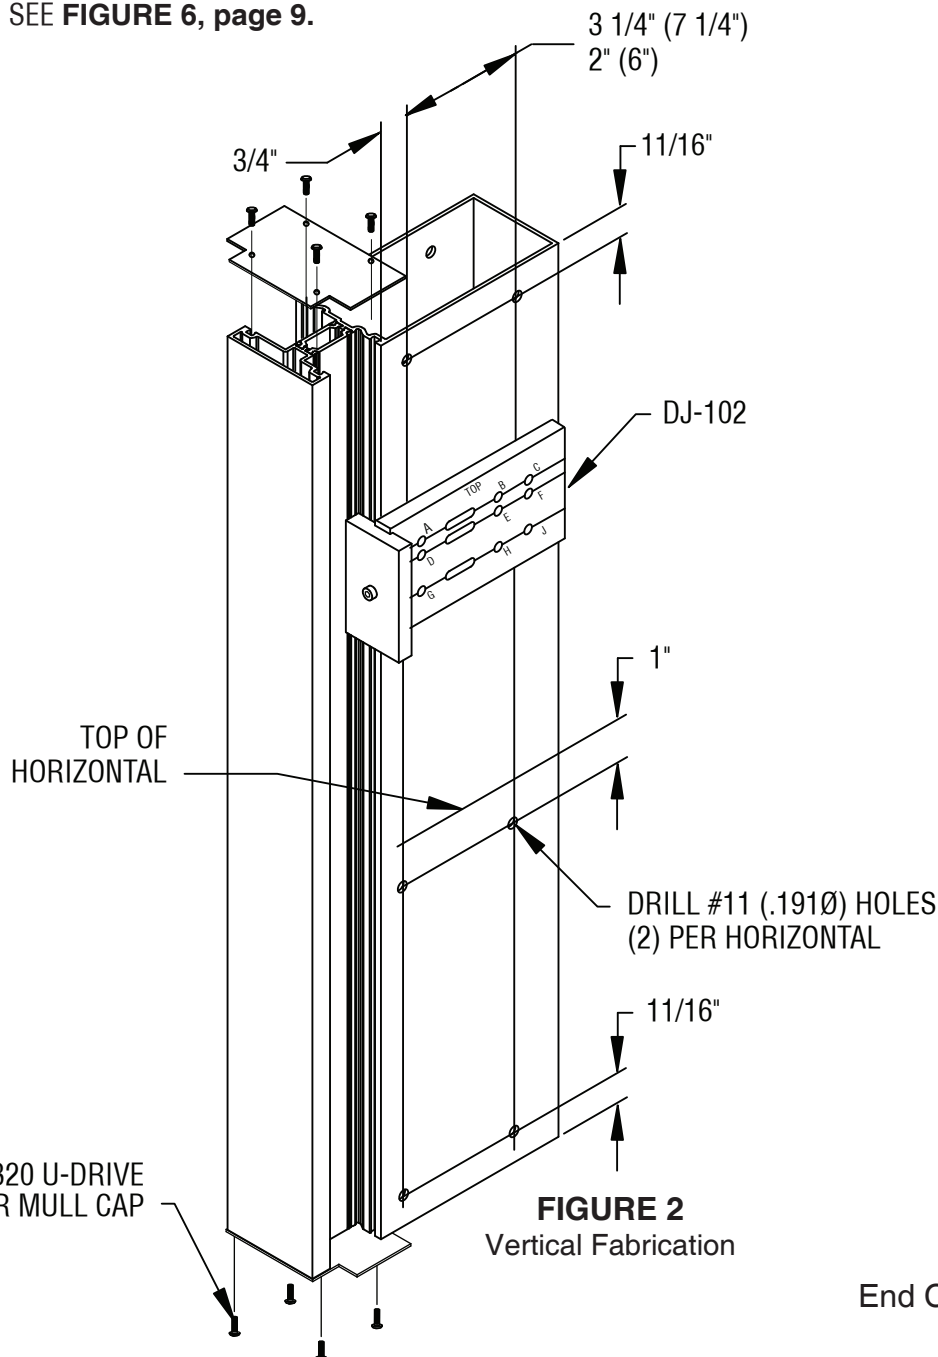
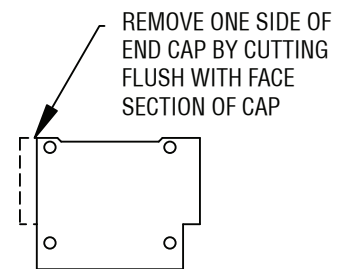

FIGURE 2
FIGURE 3
- 1.3 Fabricate vertical mullions for horizontal members using the DJ-102 drill jig or layout shown in **FIGURE 2**. Drill holes for head shear blocks using holes "A" & "B" (6" system) or "A" & "C" (7 1/4" system). For horizontal shear blocks, use holes "D" and "E" (6" system) or "D" & "F" (7 1/4" system). Align top of jig with top of vertical for head members and top of horizontal for the intermediate horizontals. For sill members, align bottom of jig with bottom of vertical, using holes "G" & "H" (6" system) or "G" & "J" (7 1/4" system). **SEE FIGURE 2**.
- 1.4 Install and seal end caps to top and bottom of all jamb and intermediate vertical mullions with (4) FS-320 #10 x 1/2" U-drive screws. **SEE FIGURE 2**. Modify end cap at jambs as shown in **FIGURE 3**.